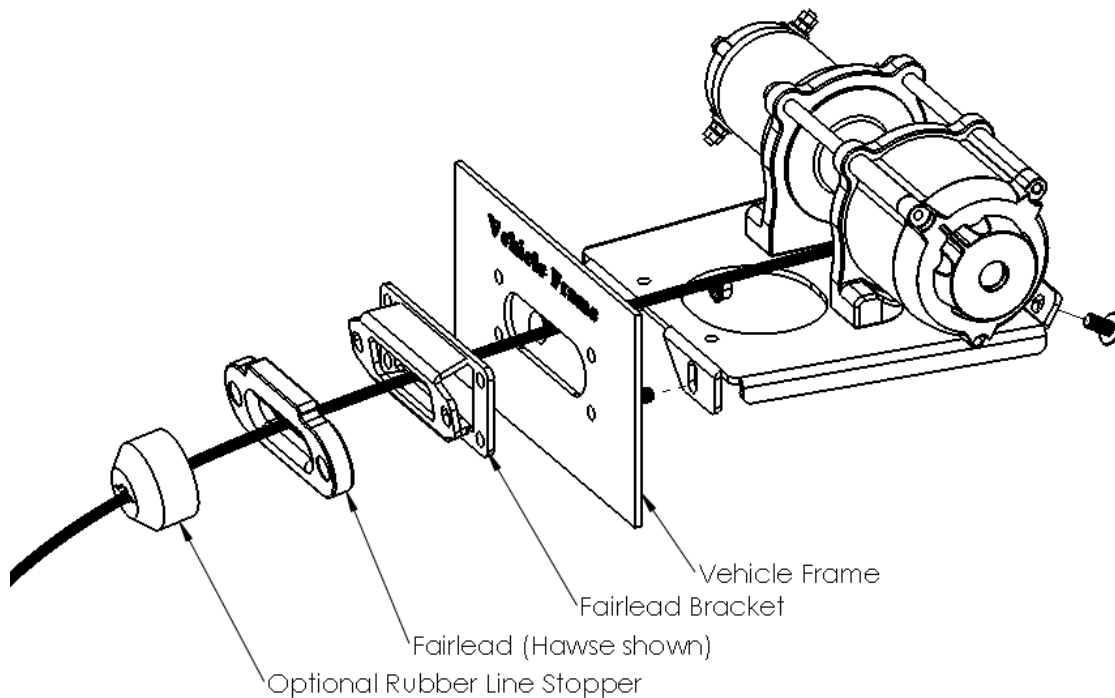

Figure 8
- 7) If your kit includes an optional rubber line stopper, install that now. Remove the cable from the winch and thread the end of the cable first through the line stopper, then the aluminum hawse or roller fairlead, then through the fairlead plate, then through the opening in the vehicle's frame. Reattach the cable to the winch. See Figure 8 for an expanded view.
NOTE: Figure 8 shows winch and winch mount fully installed. At this point the winch is not installed.